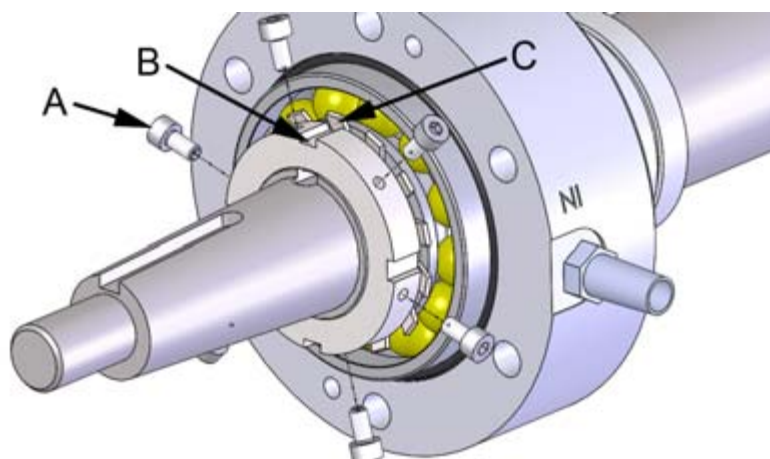

Figure 7. Shaft nut
10. Open the shaft nut screws (6 pcs, figure 7, point A) and turn the tooth of the lock washer (figure 7, point C) up from the shaft nut groove (figure 7, point B).